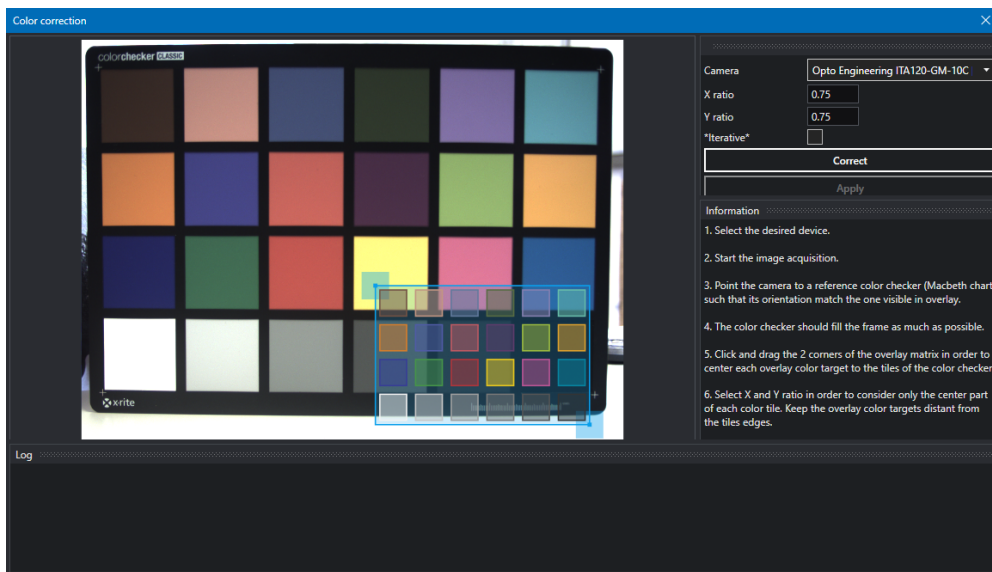

Figure 23: Window of the color correction wizard.
3. Open the Color Correction Wizard (*Wizard > Color correction*) (Fig.23).